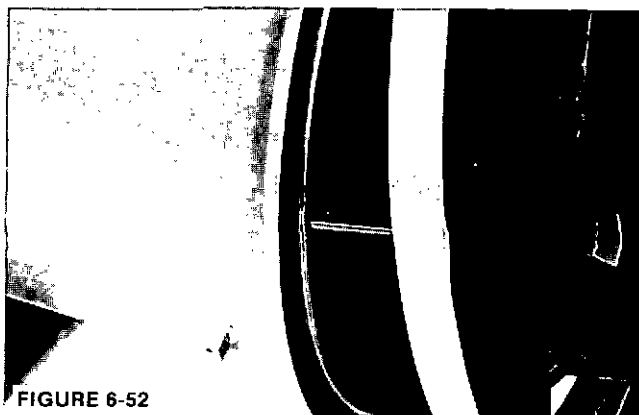
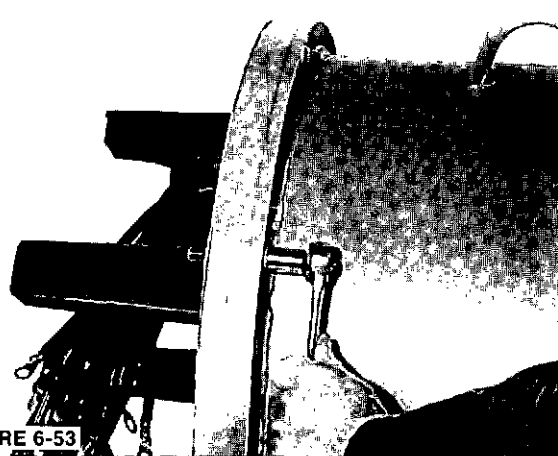

FIGURE 6-52
FIGURE 6-53
1. Install two guide pins (threaded rod can be used) into the generator side of the end bracket mounting holes. Align the guide pins with the holes in the generator frame and slide the bracket onto the frame. (Figure 6-52.) Install bracket mounting capscrews. (Figure 6-53.)